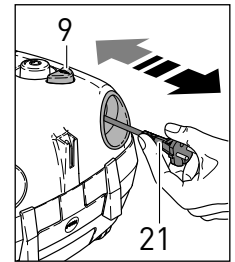
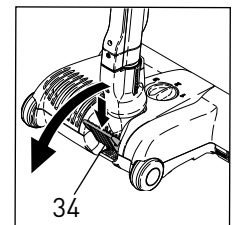
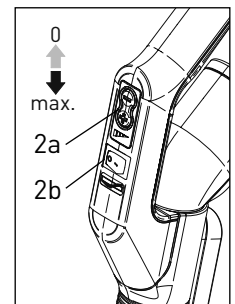

Figure 1
Figure 3 - E3
Figure 4 - E3
### E3 Premium Users - Figures 1, 2, 3 & 4
1. With the canister main power knob (10) in the OFF position, and the suction-control slider on the handle (#2a, figure 4) in the OFF position, pull the power cord out from the base of the canister (figure 1). The power cord should be unwound from the cable reel at least two thirds of its length.
3. Press the main power knob (10) on the base of the canister gently with your foot or hand. A blue light will illuminate indicating that the power is on.
4. Slide the suction-control slider (#2a, figure 4) toward the MAX position. It will move freely between 0 suction and MAX suction. Set the slider to the suction desired.
5. When the power head is on with the handle in the upright locked position, the brush roller will not spin. To release the ET-1 power head from the upright locked position, press down on the foot pedal, (#34, figure 3), lower the handle into the normal operating position and push the brush roller switch on the handle (#2b, figure 4) to engage the brush roller. The green light on the power head will illuminate. The handle can be lowered to a horizontal position useful for vacuuming under beds.
### E1 Kombi and E2 Turbo Users - Figures 1 & 2
1. With the canister main power knob (10) in the OFF position, pull the power cord out from the base of the canister (figure 1). The power cord should be unwound from the cable reel at least two-thirds of its length. **Note:** do not over-extend the cord.
3. Press the main power knob (10) on the base of the canister gently with your foot or hand.
### E3 Premium Users - Figure 4